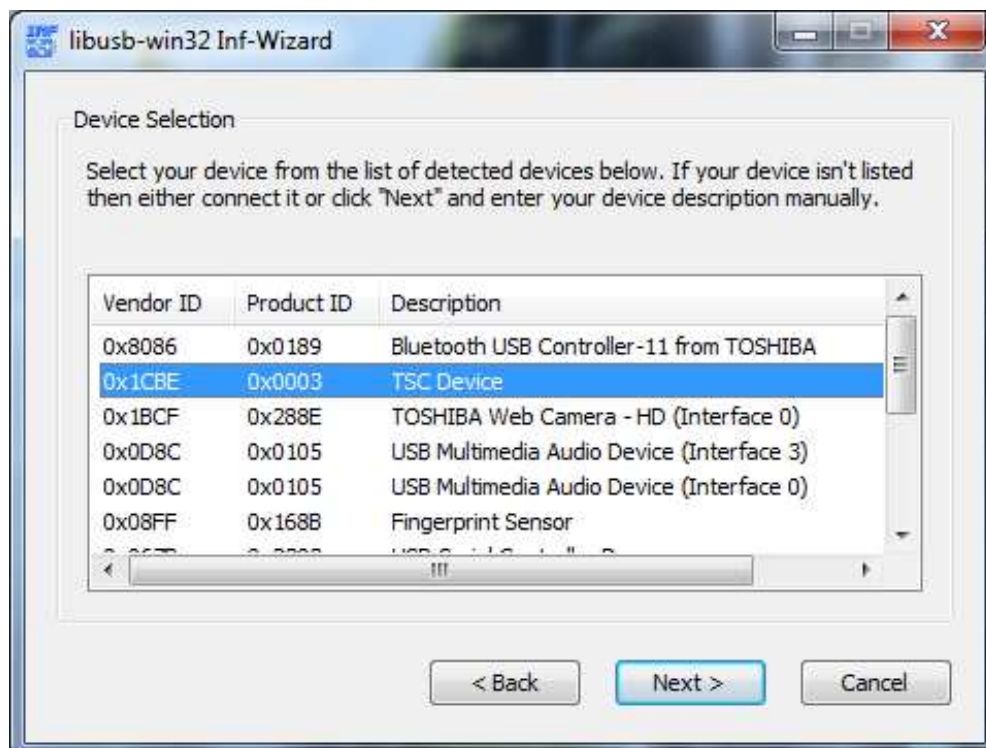

Figure 7. Inf-Wizard Device Selection
- (f) Select the TSC device with Vendor ID = 0x1CBE, and Product ID = 0x0003, and click *Next*, as shown in Figure 7